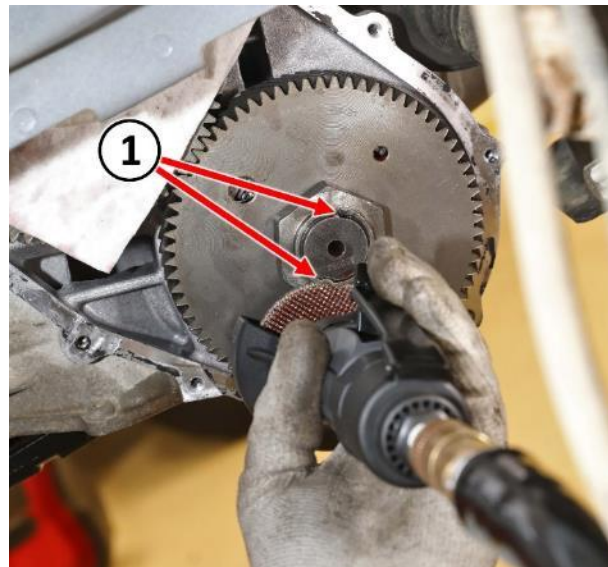

**Figure 21 – Grind Off Stakes**
32. Grind the stakes (1) off transfer gear nut (Figure 21).